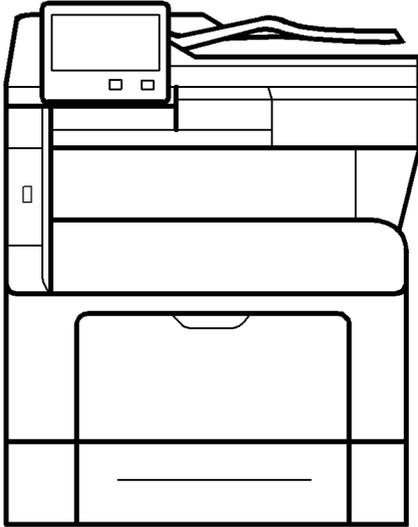

Figure 1 Xerox® VersaLink® B405
- Xerox® VersaLink® B405, Figure 1.